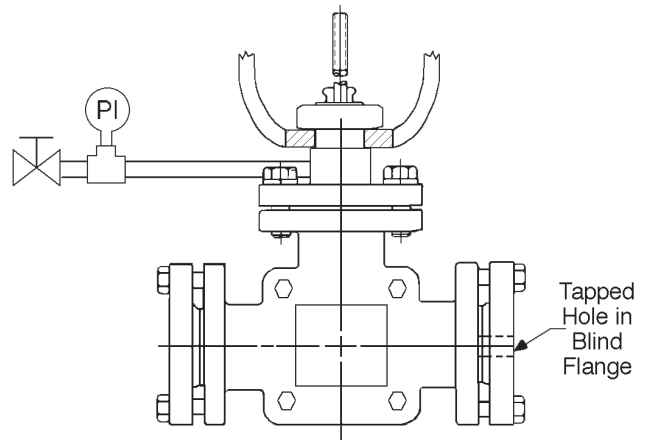

Figure 5: Pressure Boundry Testing Configuration
1. Secure the body assembly (BA) in a vise with the valve stem (9) oriented vertically.
2. Remove vented pipe plug (12).
3. Install a pipe nipple, test pressure gauge and isolation valve into the 1/8"-NPT (female) opening. (See Figure 5.)